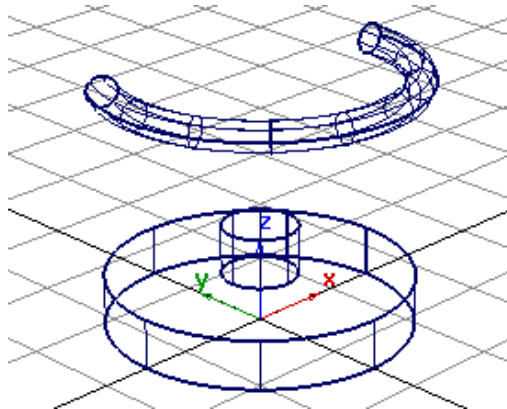

Figure 2-105 Torus created for the ring of the globe
4. Enter **0, 0, 250** in the promptline and press ENTER; a ring is created in the window, as shown in Figure 2-105.